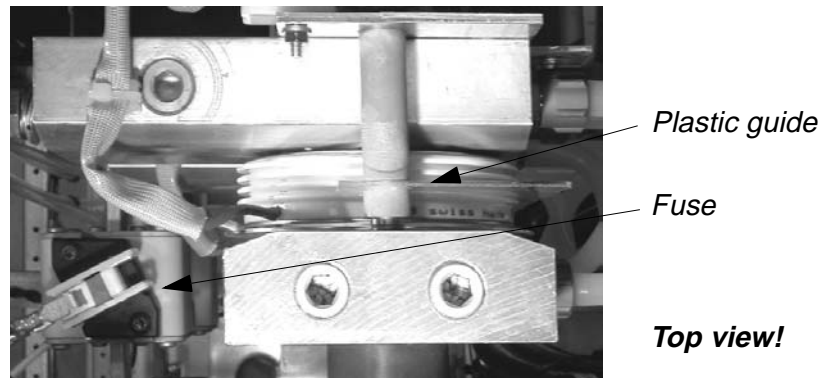

Figure 9-8 Removing a Thyristor
- 2 Remove the fuse and the fuse support in order to be able to remove the thyristor (see Figure 9-8). Cut off the cable tie securing the thyristor gate wires and remove them from the pulse transformer.